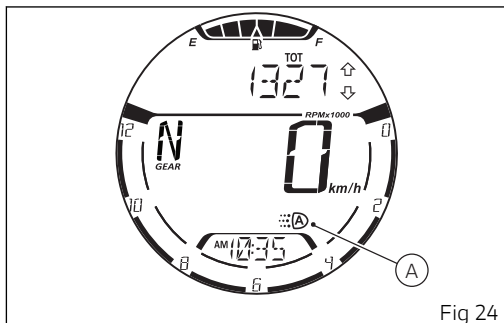

Fig 24
It is possible to switch off the DRL lights by setting them to “MANUAL” with button (5) on the left-hand switch. Press button (5) again, the DRL lights will turn on again and set to “AUTO”. When the DRL lights are set to “AUTO”, the display shows the symbol (A, Fig 24)
If the DRL is in this mode, when starting the engine it automatically switches off and the low beam is activated if the instrument panel detects poor light conditions (NIGHT). If the instrument panel detects good light conditions (DAY), the DRL remains on and the low beam off: in this mode, the instrument panel automatically switches from the DRL light to the low beam and vice versa, according to the detected ambient light conditions. The symbol (A, Fig 24) will be displayed.